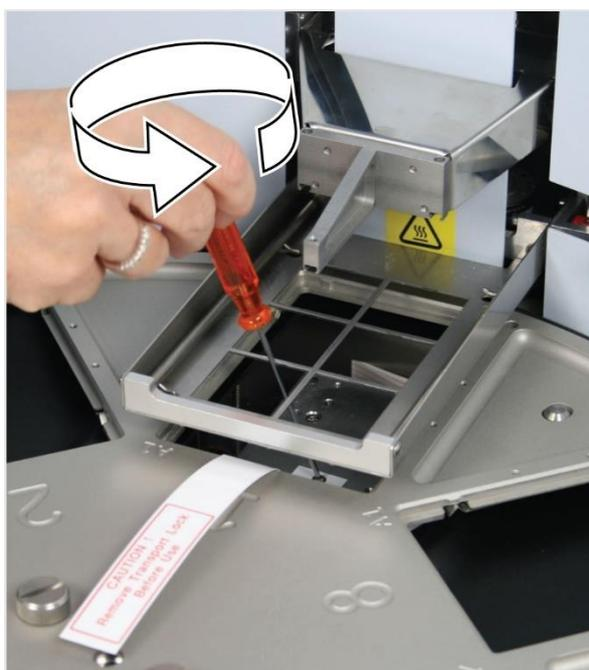

Figure 12. Remove the transport lock of the heating block (A)
3. Remove the transport lock of the heating block according to Figure 12. Unscrew the transport lock screw counterclockwise (Figure 12). Lift the screw with the label attached (Figure 13).